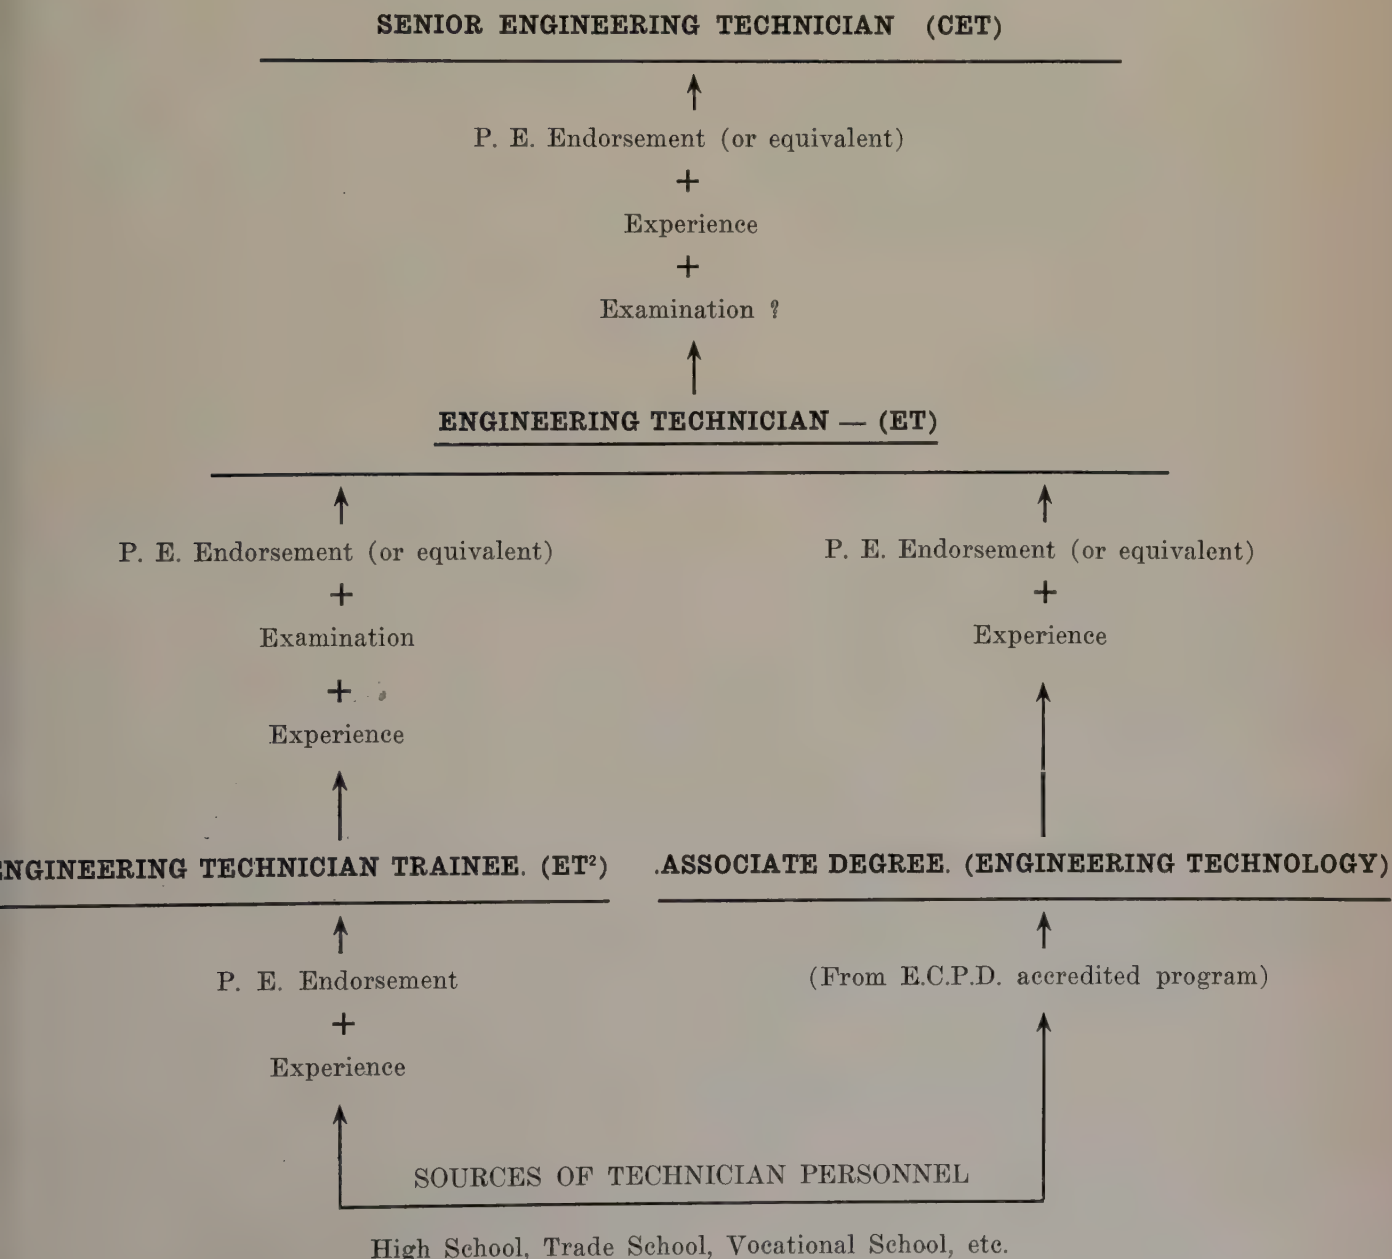

FIGURE 1
The Institute should make provision for recognizing three grades of technicians: (1) Engineering Technician Trainee (ETT); (2) Engineering Technician (ET); and (3) Senior Engineering Technician (SET). Figure 1 shows the relationship between these grades. It will be noted that advancement in grade always requires the endorsement of a professional engineer or equivalent. In addition, an Engineering Technician Trainee must pass an examination before he can become an Engineering Technician.